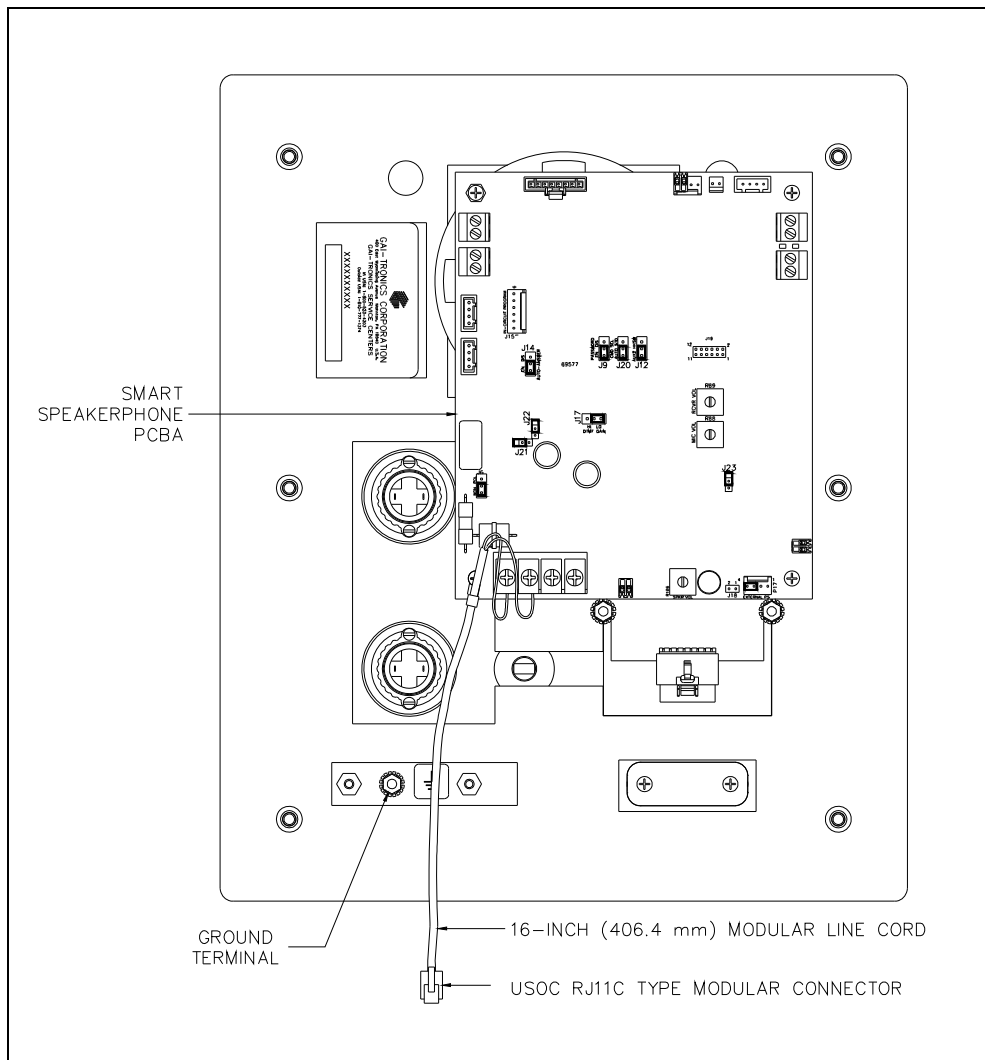

Figure 2. Model 393-00x, 393AL-00x, and 394AL-00x PCBA detail
1. Align the holes in the four corners of the new PCBA with the standoffs in the telephone, maintaining proper orientation. See Figure 2 on page 4.